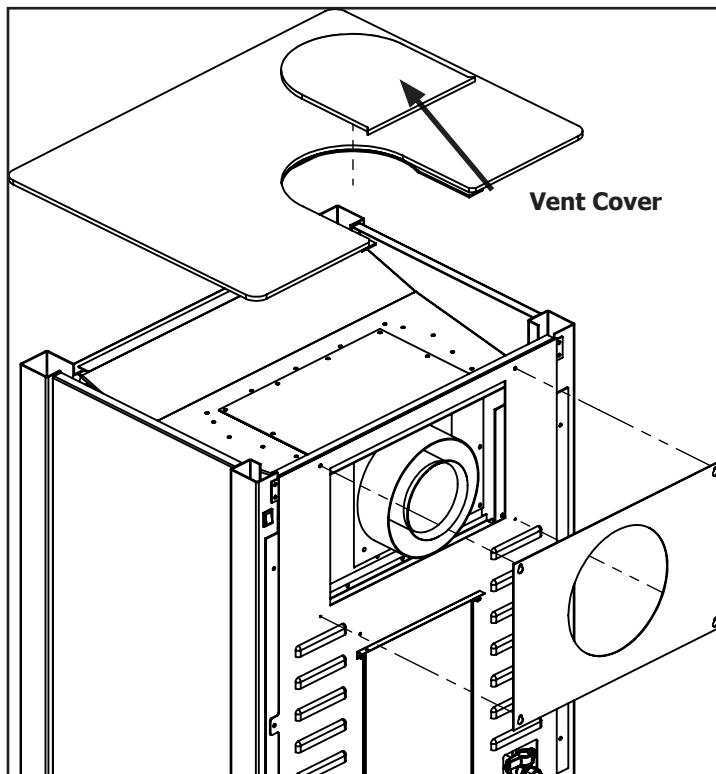

Figure 20. Vent Conversion - Step 4
Step 4: Re-install the Plate Top. Re-install the back plate and tighten the four retaining screws. Finally, install the vent cover supplied with the S20 as shown in Figure 20.